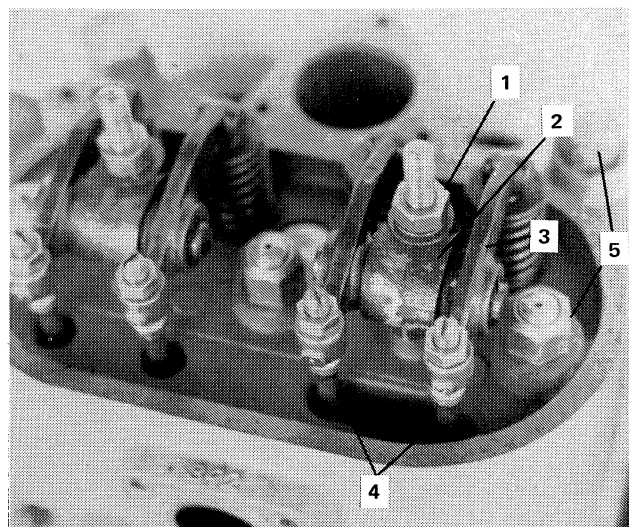

Figure2
15. Loosen the center nut and remove the rocker arm assembly and push rods, Figure 2.